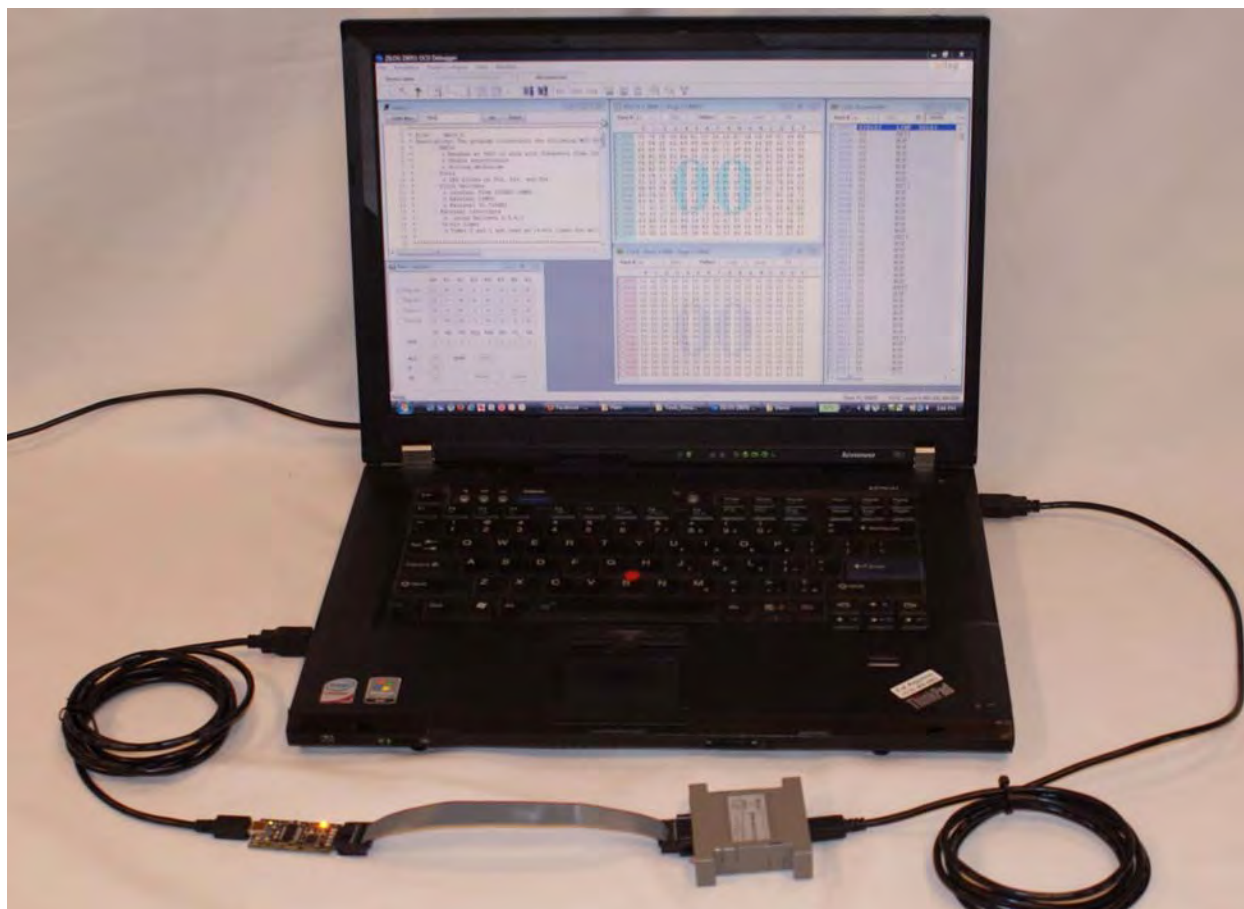

Figure 4. An Example Setup
The driver programs for the Z8051 On-Chip Debugger are copied during the software and documentation installation. In the following procedure for Windows XP systems, ensure that the target side of the OCD will remain unconnected while you install these drivers. Refer to Figure 4 for guidance.
4. When the installation is complete, plug in the Mini-B connector of the second USB cable into the Board, and the larger A connector into the USB port of your PC. Again, refer to Figure 4 on page 6 for guidance.